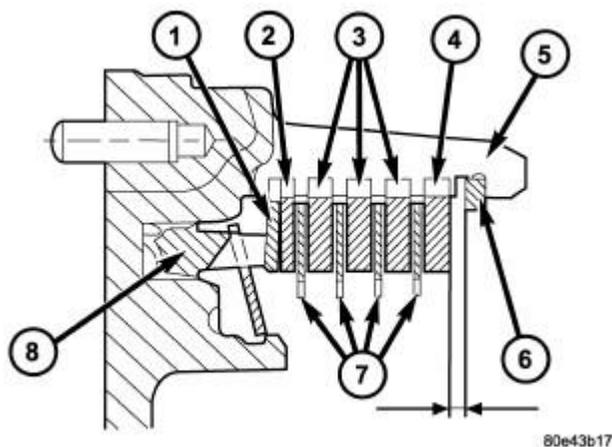

Fig. 117: B1 Clutch Stack-Up - Double Sided Discs
- For transmissions using double sided friction discs, use a feeler gauge to determine the play "L" at three points between the snap-ring (6) and outer multiple-disc (4). Refer to **Fig. 117**. During the measurement, the snap-ring (6) must contact the upper bearing surface of the groove in the outer multiple-disc carrier (5). The correct clearance for transmissions using double sided friction discs is 2.3-2.7 mm (0.091-0.106 in.) for two friction disc versions, 2.7-3.1 mm (0.106-0.122 in.) for three disc versions, and 3.0-3.4 mm (0.118-0.134 in.) for four disc versions.
- Adjust with snap-ring (6), if necessary. Snap-rings are available in thicknesses of 2.6 mm (0.102 in.), 2.9 mm (0.114 in.), 3.2 mm (0.126 in.), 3.5 mm (0.138 in.), 3.8 mm (0.150 in.), and 4.1 mm (0.162 in.).